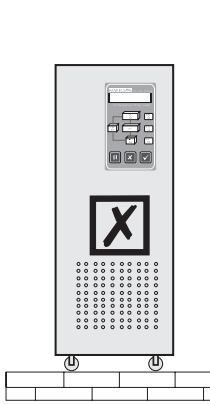

Figure 8
4. Please keep away from fire source and high temperature to avoid over-high temperature. (Figure 8)